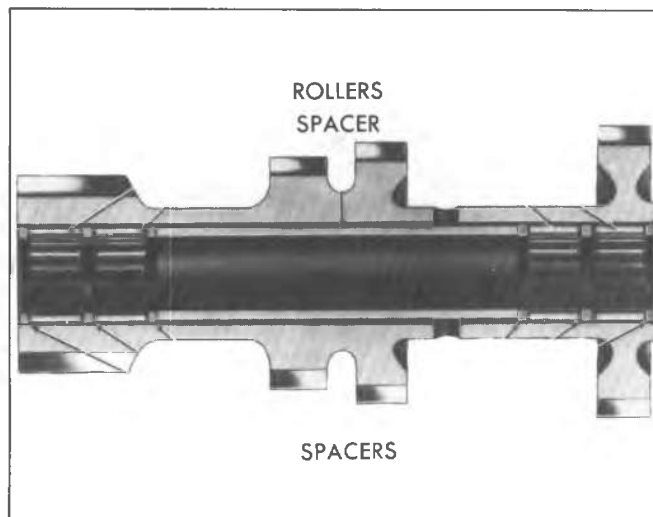

Fig. 7B-19K--Countergear Cross Section
5. Attach a dial indicator as shown in Fig. 7B-20K and check end play of the countergear. If end play is greater than .025", a new thrust washers must be installed.